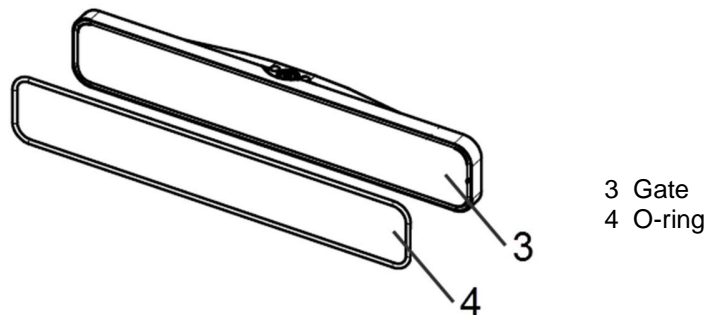

Figure 6-3
2. Carefully remove gate O-ring (3) with an O-ring removal tool from gate (3), see «Figure 6-3».